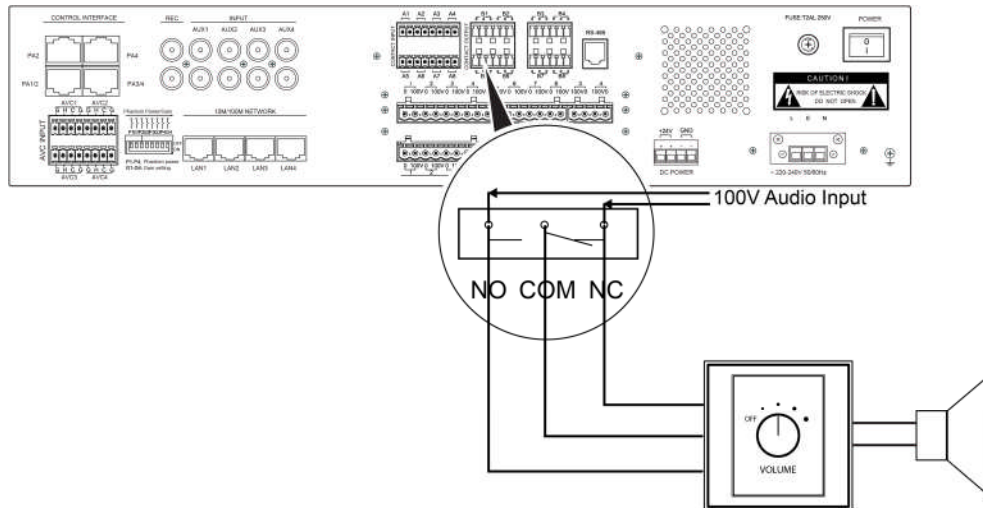
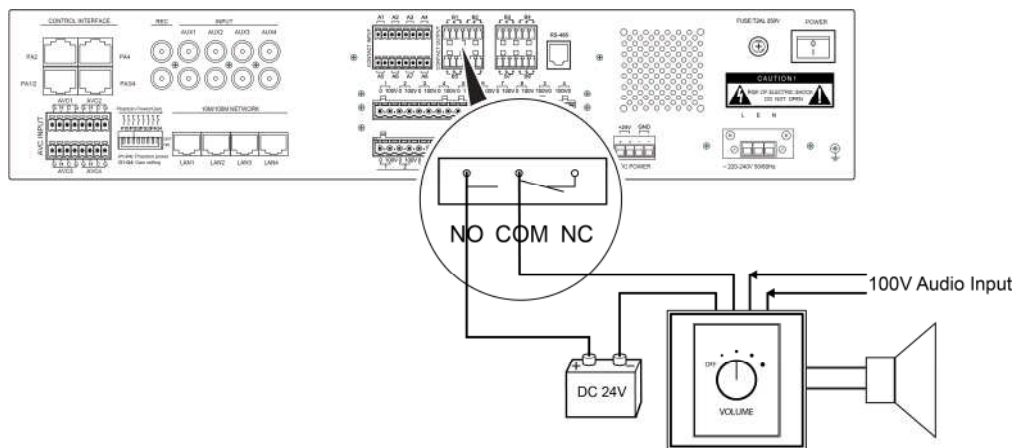

Figure 18 Schematic Diagram of the DCS and Three-Line Audio Controller Connection Configuration
Figure 19 Schematic Diagram of the DCS and Four-Line Audio Controller Connection Configuration
3. Connect the external equipment or switch to the other end of the dry contact output cable. Figure 18 is schematic diagram of the DCS and three-line audio controller connection configuration. Figure 19 is schematic diagram of the DCS and four-line audio controller connection configuration.